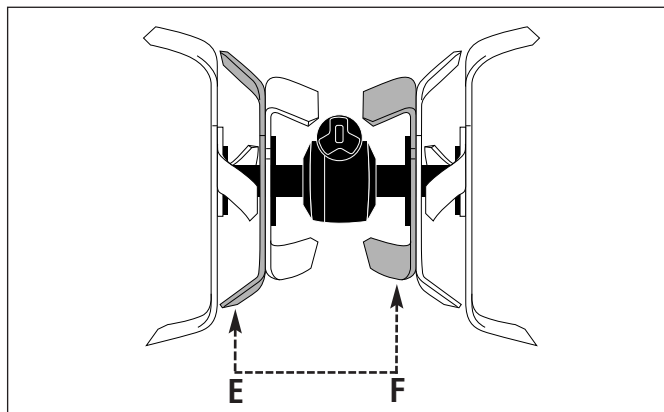

Figure 30: Exchanging position of tines at "E" and "F."
Step 3: Move the two *left-curved* tines from the "E" position on the left inner holder to the "F" position on the right inner holder. Move the two *left-curved* tines which were at the "F" position to "E." See Figure 30.